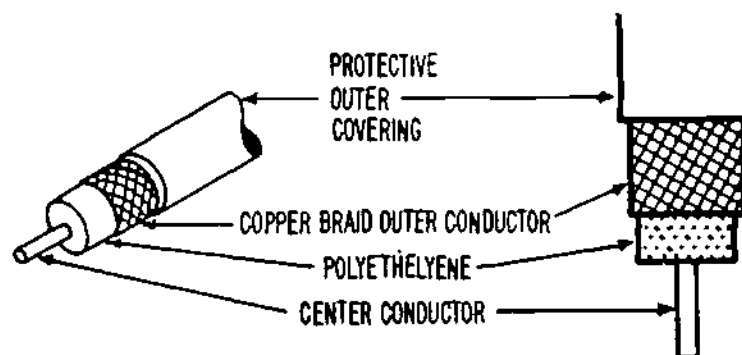

Figure 6
9. How does coaxial cable function as an electromagnetic delay line to high frequency electrical signals? To answer this question, you first must study Figure 6 to see what a piece of standard coax looks like.